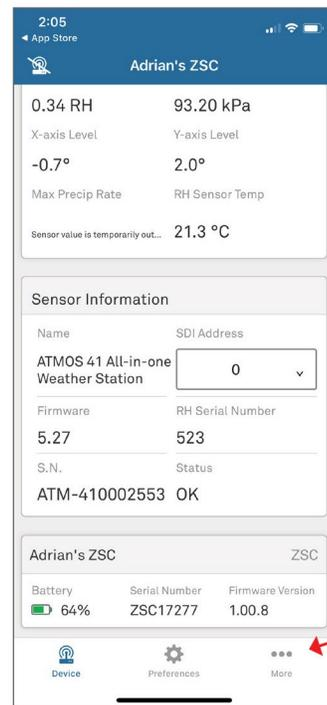

Figure 14. View ATMOS 41 data
8. Scroll down to see the Sensor Information (Figure 14).
9. Press the menu dots located in the lower right-hand corner of the ZSC screen (Figure 14) to open the More screen.